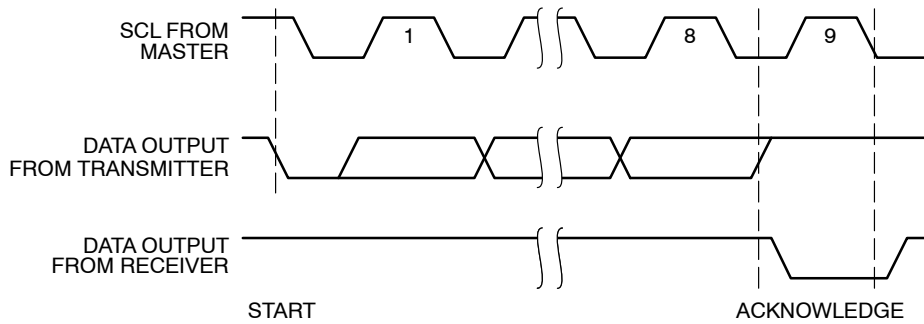
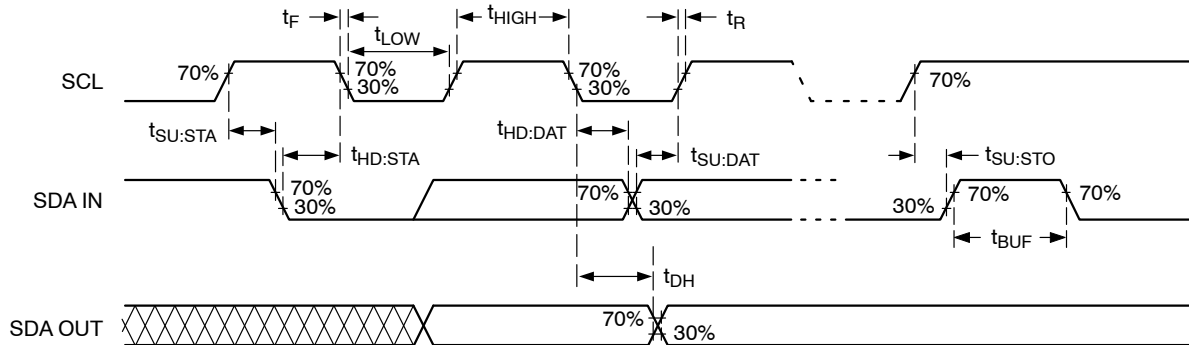

Figure 4. Acknowledge Timing
Figure 5. Bus Timing
- Timing reference points are set at 30%, respectively 70% of  $V_{CC}$ , as illustrated in Figure 5. Bus loading must be such as to allow meeting the  $V_{IL}$  and  $V_{OL}$  as well as all other timing requirements. The minimum clock frequency of 10 kHz is an SMBus recommendation; the minimum operating clock frequency is limited only by the SMBus time-out. The device also meets the Fast and Standard I2C specifications, except that  $T_i$  and  $t_{DH}$  are shorter, as required by the 1 MHz Fast Plus protocol.
A matching Slave address is acknowledged (ACK) by the Slave by pulling down the SDA line during the 9th clock cycle (Figure 4). After that, the Slave will acknowledge all data bytes sent to the bus by the Master. When the Slave is the transmitter, the Master will in turn acknowledge data bytes in the 9th clock cycle. The Slave will stop transmitting after the Master does not respond with acknowledge (NoACK) and then issues a STOP. Bus timing is illustrated in Figure 5.